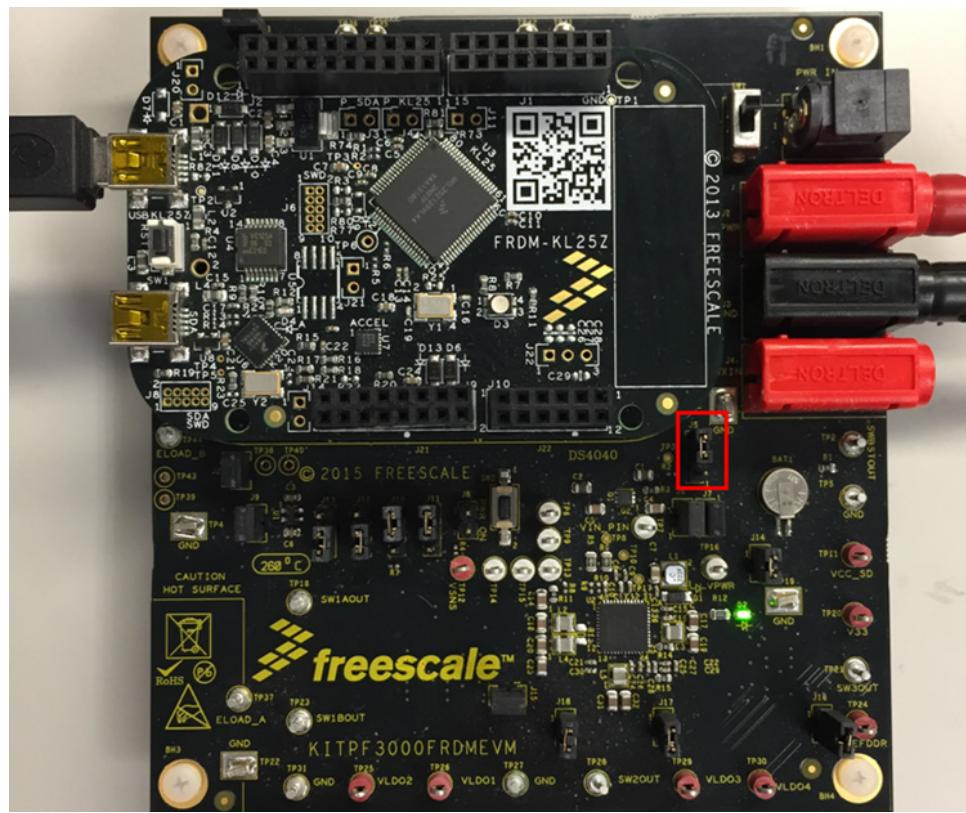

Figure 15. J5 TBB Jumper Connection
2. Make sure the Jumper J5 is connected as shown in Figure 15.